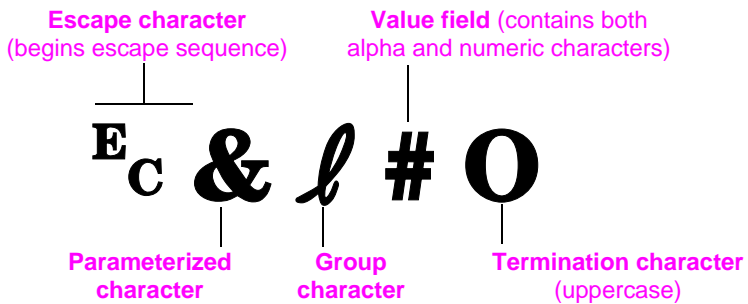

Figure D-1 Printer Command Elements
Figure D-1 displays the elements of a typical printer command (in this instance, a command for page orientation).
- 1** The first two characters after the E_C character (the parameterized and group characters, see Figure D-1) must be the same in all of the commands to be combined.